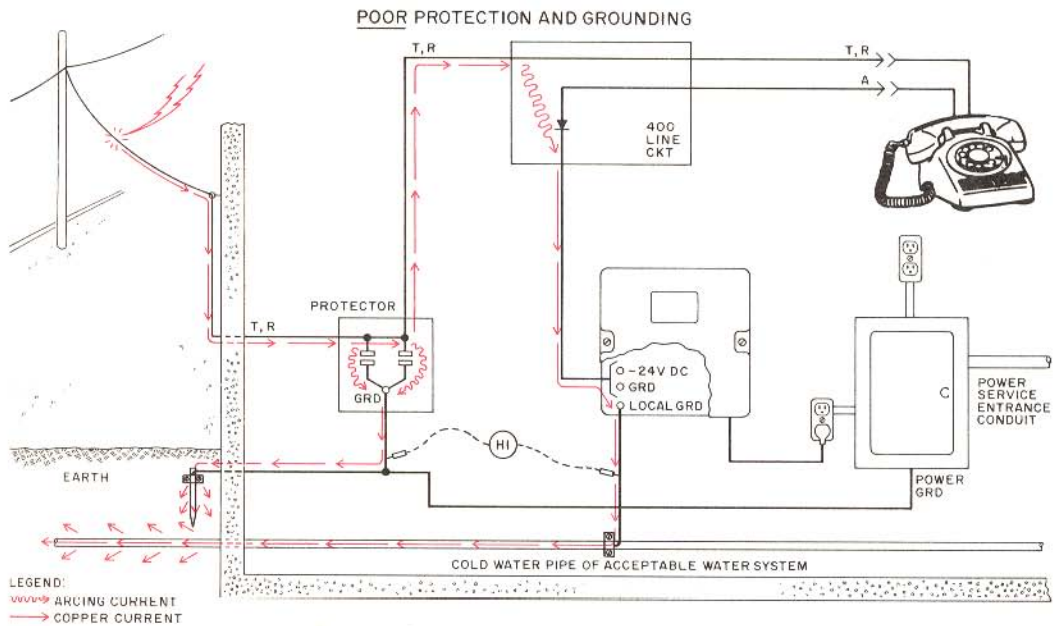

Fig. 15—Protector and AC Power Grounds Bonded to Ground Rod and KTS Power Supply Ground Bonded to Cold Water Pipe
Other Combinations of KTS Grounds (Fig. 15 and 16)
6.07 Possible circuit arc paths can develop when more than a single type of ground is provided for the KTS. For example, Fig. 15 illustrates another grounding arrangement that exposes the KTS equipment to possible damage from line surges.